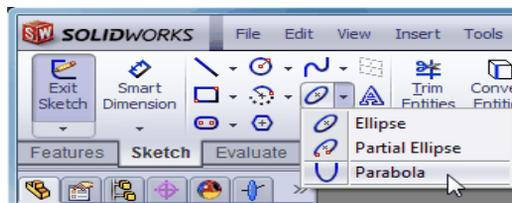

Figure 11 Preparing to draw a parabola
- 3 To draw the parabola, click the down arrow next to the ellipse tool on the **Sketch** toolbar, and click **Parabola** on the menu. See Figure 11.